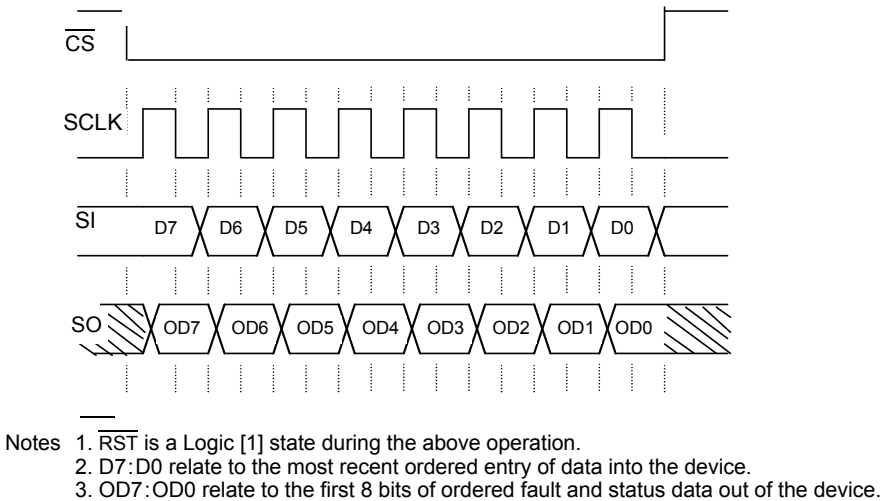
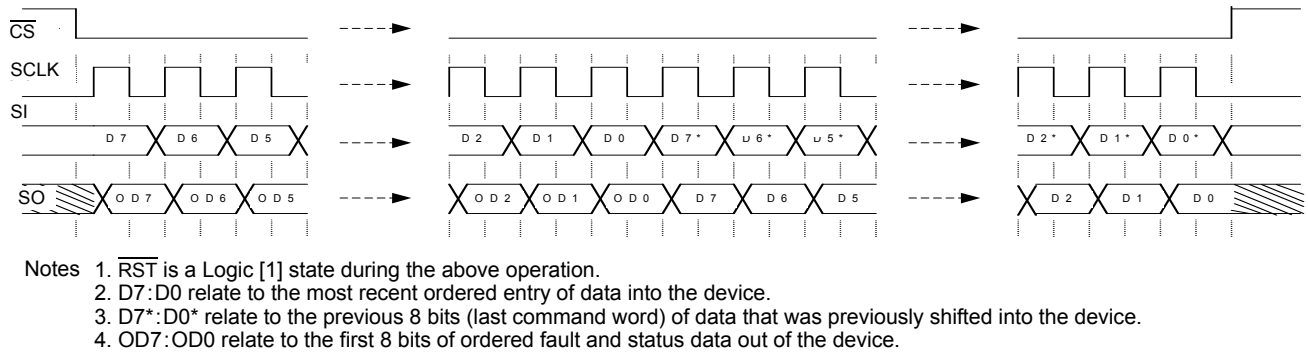

Figure 10. Single 8-Bit Word SPI Communication
Figure 11. Multiple 8-Bit Word SPI Communication
Serial clocks (SCLK) the internal shift registers of the 34984 device. The serial input (SI) pin accepts data into the input shift register on the falling edge of the SCLK signal while the serial output (SO) pin shifts data information out of the SO line driver on the rising edge of the SCLK signal. It is important that the SCLK pin be in a logic low state whenever CS makes any transition. For this reason, it is recommended that the SCLK pin be in a Logic [0] state whenever the device is not accessed (CS Logic [1] state). SCLK has an active internal pull-down,  $I_{DWN}$ . When CS is Logic [1], signals at the SCLK and SI pins are ignored and SO is tri-stated (high-impedance). See Figure 10 and Figure 11.